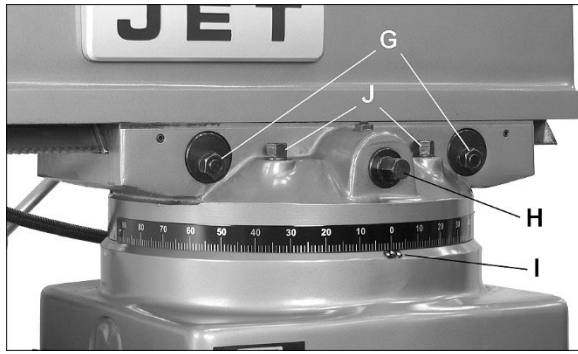

Figure 10-7: Ram positioning
Refer to Figure 10-7.
1. Loosen hex nuts (G, Figure 10-7) located on the eccentric locking cylinders.
2. Turn ram pinion (H) with 19mm wrench to slide ram forward or back.
3. When desired position is reached, tighten hex nuts (G) securely.